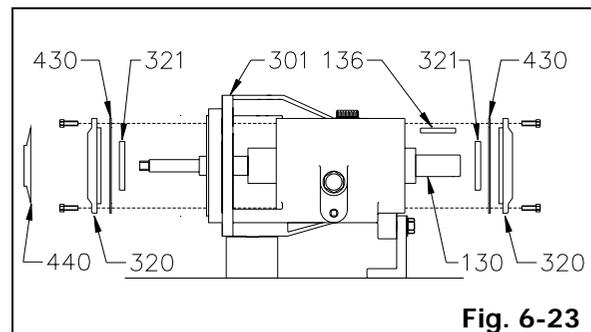

Fig. 6-23
1. Lift out shaft end key (136) from shaft (130).
2. For KS-SR, remove deflector (440) from shaft (130).
3. Remove eight (8) (for KS-SR) or four (4) (for KS-SG) bearing cover bolts.
4. Remove bearing cover(s) (320) from bearing bracket (301) or bearing frame (300).
5. Remove oil seal(s) (321) from bearing cover(s) (320).
6. Remove and discard bearing cover gasket(s) (430). Replace new gasket(s) during reassembly (Fig. 6-23 and 6-24).